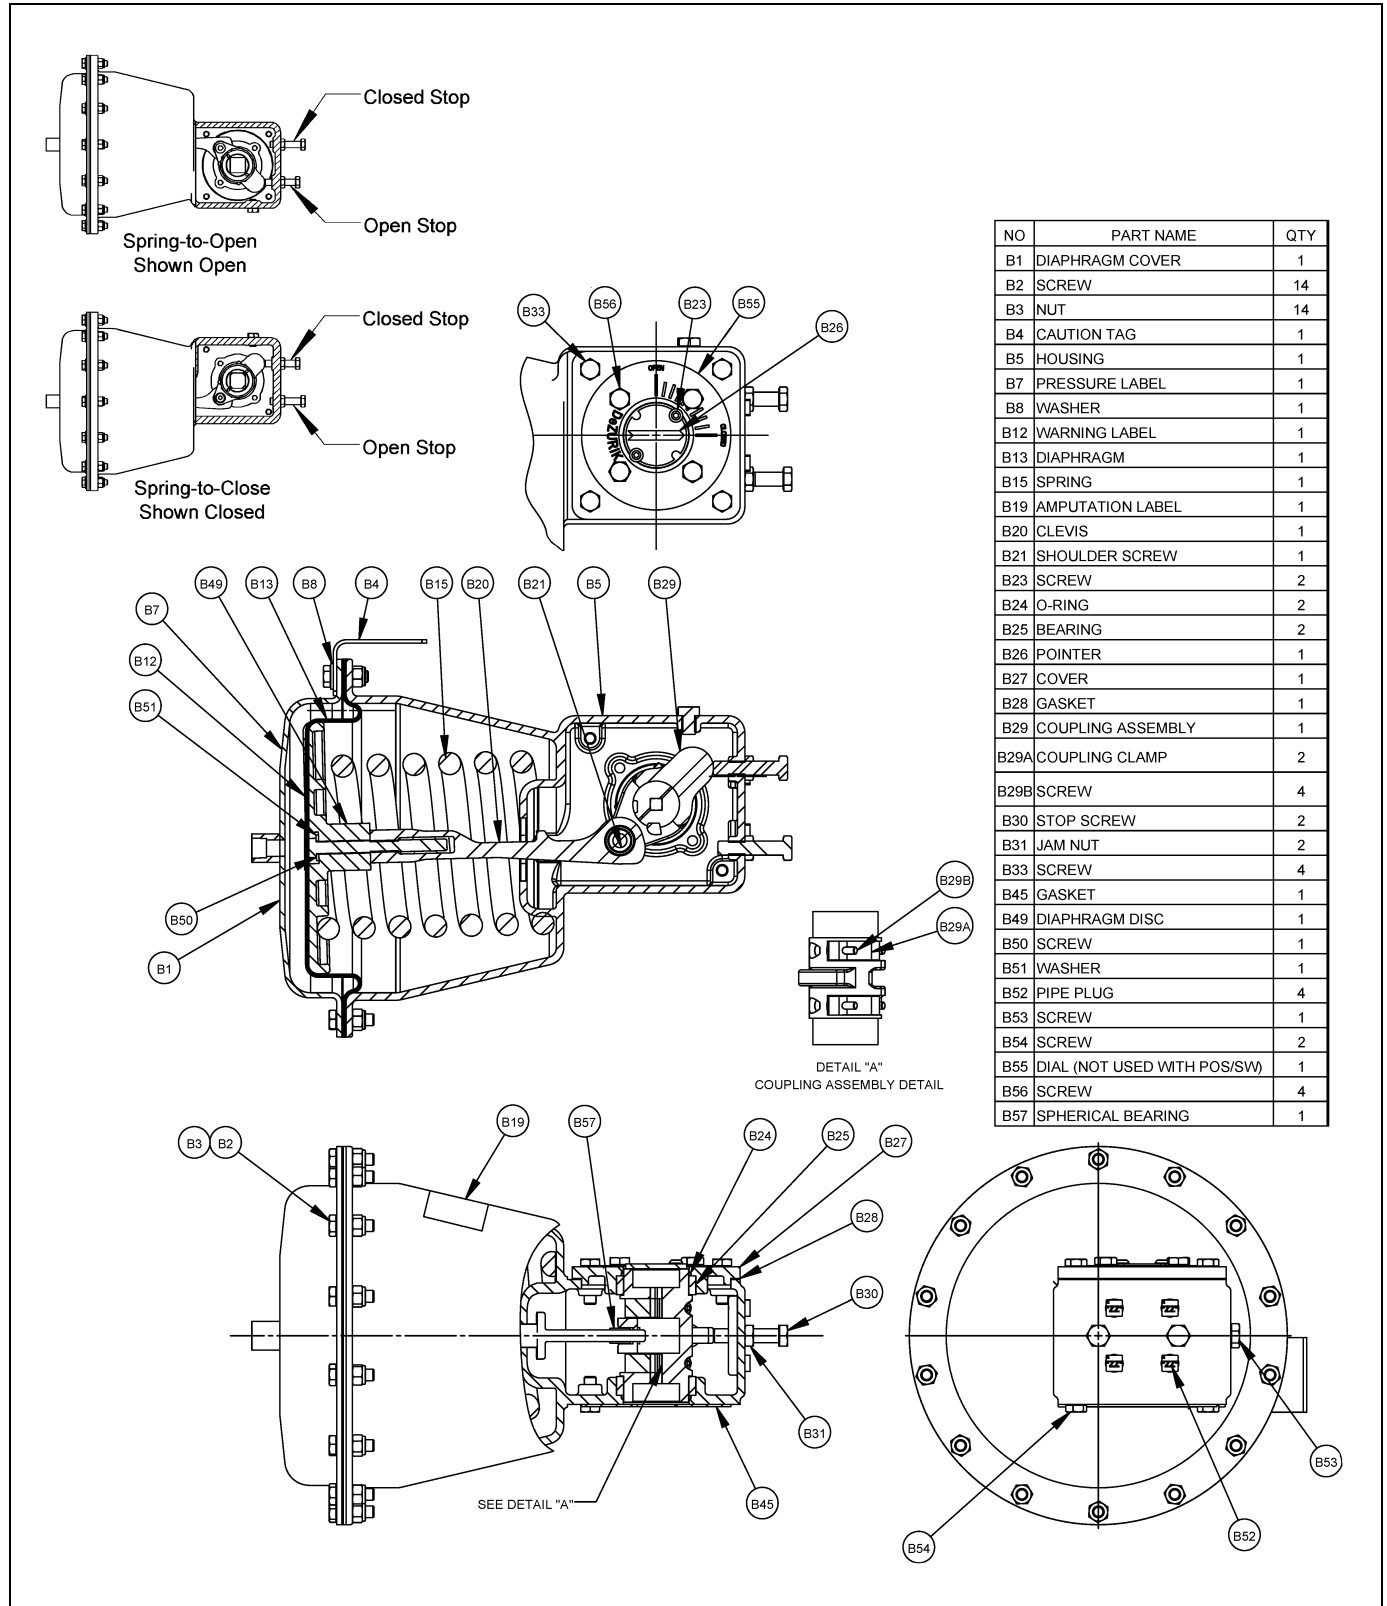
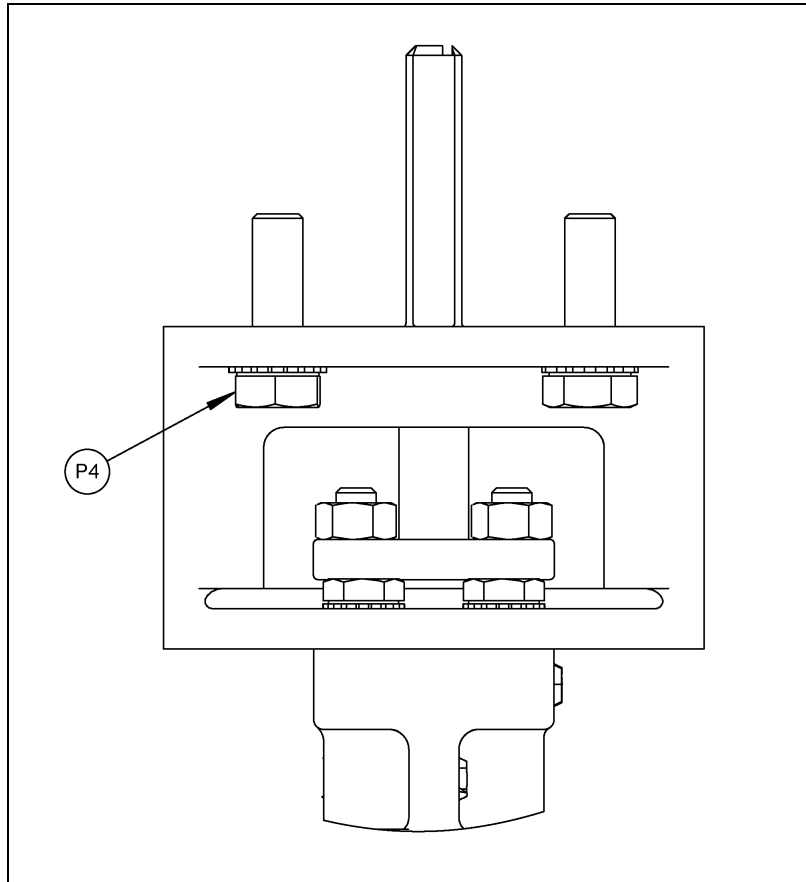

Figure 1—Parts Identification
Figure 2— Connecting Parts Identification
For high vibration installations, additional mounting support is recommended on the diaphragm end of the actuator to prevent damage to the actuator and/or the piping system. Mount the support from the pipeline to at least two of the diaphragm cover screws (B2) shown in Figure 1. Tighten the screws to 80 ± 2 inch pounds (9.0 ± 0.2 Nm).
The actuator is powered pneumatically, and rotates 90 degrees between the open and closed positions. The action of the actuator is either spring-to-close or spring-to-open, as determined by which side of the actuator is mounted to the valve, as shown in Figure 1. The action selected is shown on the actuator label. With spring-to-close, increasing signal pressure to the actuator opens the valve, and decreasing pressure closes the valve; with spring-to-open, increasing pressure closes the valve, and decreasing pressure opens the valve.
The open and closed position stops are the two hex head cap screws (B30) shown in Figure 1. The stops are adjustable, and prevent the actuator from rotating beyond the open and closed positions of the valve. If the actuator is factory-mounted on the valve, the stops are preset and do not require further adjustment.
If the actuator is not factory-mounted on the valve, or if the actuator is removed and/or disassembled, the stops will require adjustment as described below. Refer to the valve Instructions for closed-position information, and adjust the stops with the actuator mounted on the valve. Refer to Figure 1 for parts identification.
2. Loosen the jam nut (B31) on the appropriate stop screw (B30). Refer to Figure 1.
Refer to Figure 1 and Figure 2 for parts identification.
2. Obtain three 5/16" diameter threaded rods, each at least 3" (75mm) long, and nine 5/16" nuts. As shown in Figure 2, assemble one rod and three nuts in each of the three holes from which the screws were removed in the previous step. Jam the double nuts together by tightening to 14 ± 2 foot pounds (19 ± 3 Nm); tighten the single nuts finger tight against the cover.
Refer to Figure 1, 2 and 3 for parts identification.